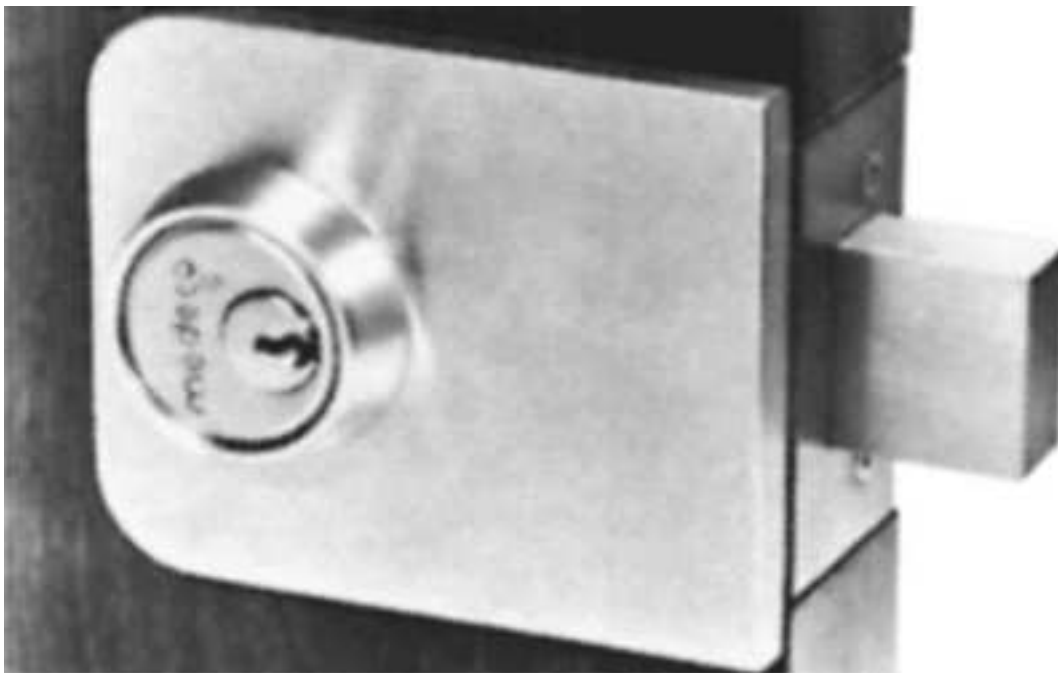

**Figure 13.41** Installing face plate.
13. Install the faceplate with the screws provided (Fig. 13.41 ).